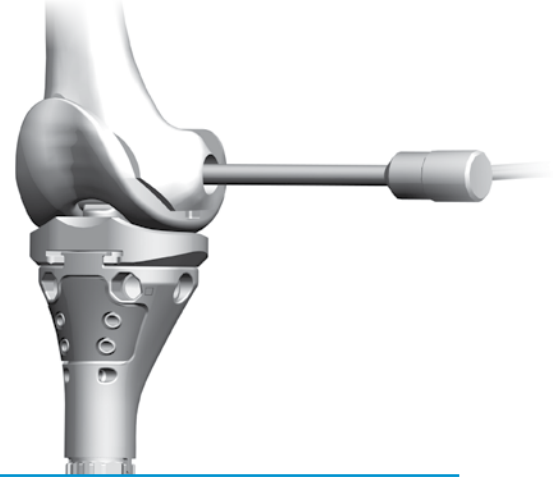

Fig. 42
- Remove the Hinge Pin using the Screw Driver (4.5mm) and RH Knee Removal Wrench (black-handle) or Deflection Beam Torque Wrench (blue-handle) (Fig. 42).